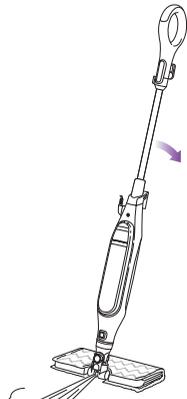

fig. 10
- 4 When you need an extra burst of steam to clean a stuck-on stain, you can use the Steam Blaster™ feature. Flip the head over so that it is behind the mop body, then tilt the mop handle down. This will cause the the Steam Blaster (fig. 10) to emit a concentrated blast of steam onto the stain.